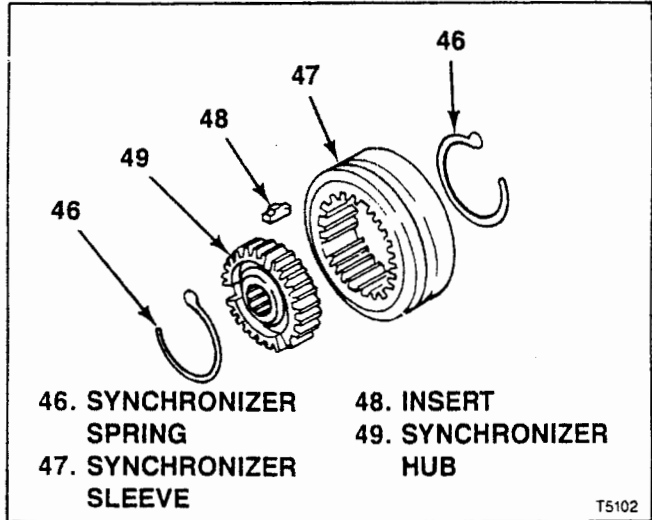
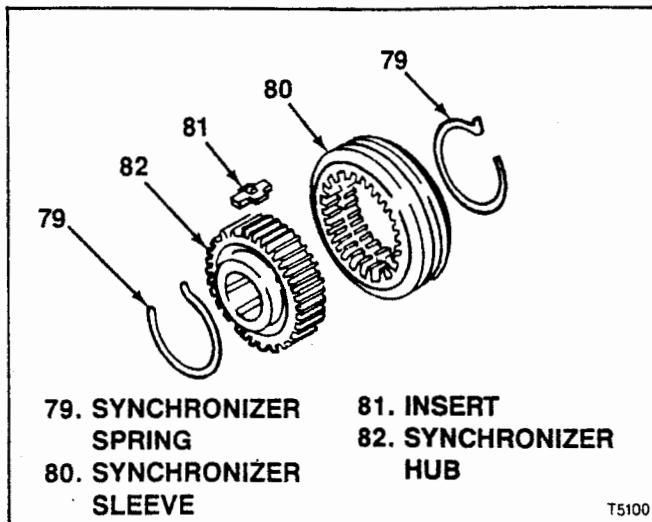

Figure 3-13. T5 WC 5th Synchronizer Assembly
Figure 3-14. T5 WC 3rd-4th Synchronizer Assembly
- a. Push countershaft gear (116) rearward to force bearing cup (111) out of transmission case (117).
- b. Tilt front end of countershaft gear (116) up and remove from top of transmission case (117).
- c. Push bearing cup assembly (112) out of transmission case (117) and remove o-ring (113) from bearing cup (114).
- d. Use suitable puller to remove bearing cones (115) from countershaft gear (116) if necessary.
3-19. DISASSEMBLY OF T5 WC 5TH SYNCHRONIZER ASSEMBLY. Mark synchronizer sleeve (47) and hub (49) so that clutch teeth and faces can be assembled exactly as they were originally. Sleeve and hub are a matched set, selected at manufacture. Disassemble as follows (see figure 3-13):
- a. Unhook and remove springs (46).
- b. Slide sleeve (47) from hub (49), freeing inserts (48).
3-20. DISASSEMBLY OF T5 WC 3RD-4TH SYNCHRONIZER ASSEMBLY. Mark synchronizer sleeve (80) and hub (82) so that clutch teeth and faces can be assembled exactly as they were originally. Sleeve and hub are a matched set, selected at manufacture. Disassemble as follows (see figure 3-14):
- a. Unhook and remove springs (79).
- b. Slide sleeve (80) from hub (82), freeing inserts (81).